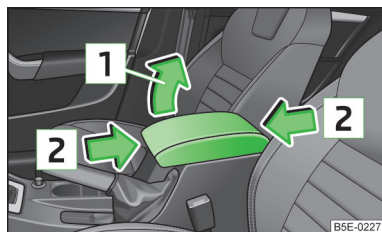

Fig. 52
- First of all fold the cover downwards and then lift it in the direction of the arrow **1** » Fig. 52 into one of the 4 fixed positions.
- Move the lid into the desired position in the direction of the arrow **2** » Fig. 52.